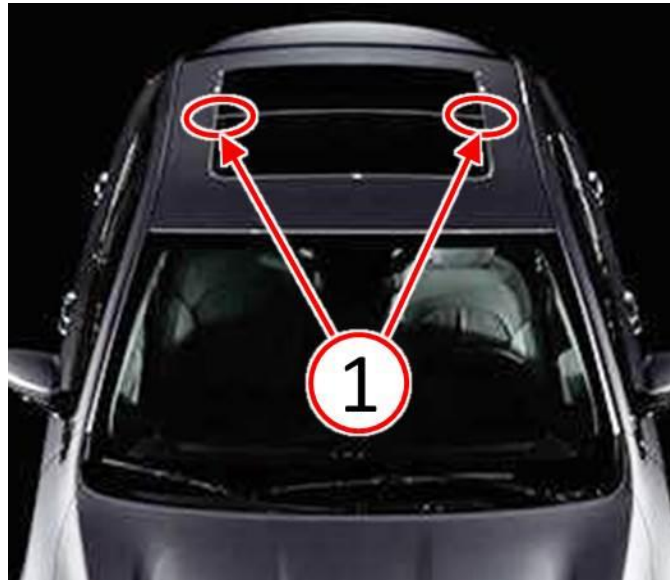
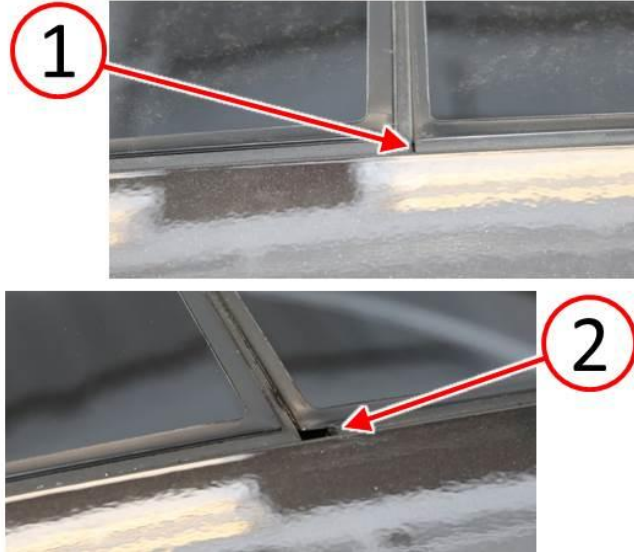

Fig. 1 Inspection Locations
Fig. 2 Gap Inspection
1. With the sunroof closed, inspect the sunroof fixed pane bulb seal in relation to the movable pane on both the right and left side (Fig. 1) and (Fig. 2).
2. Is the distance between the fixed pane bulb seal and the movable sunroof pane greater than 1 mm? (Fig. 2)